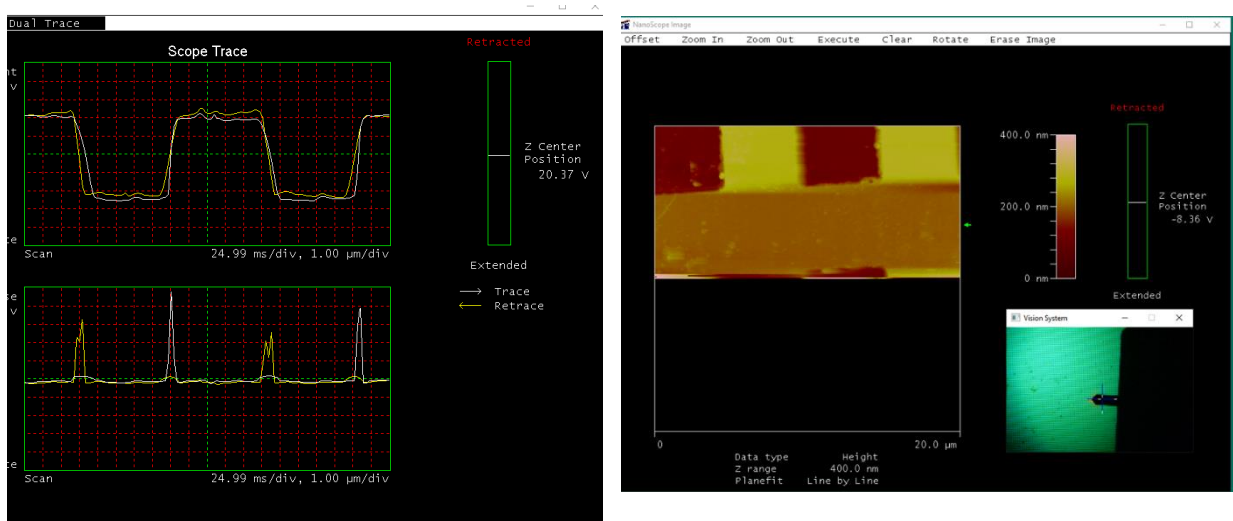

Figure 17: Waveform and Scanning on the Surface
- Maximize the “amplitude setpoint so the trace and retrace curve look matched but not necessarily overlapping each other (Figure 17).